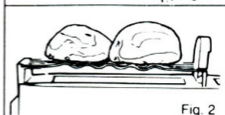

Fig. 2
4. Place the food centrally on the rack - see fig. 2.& 3